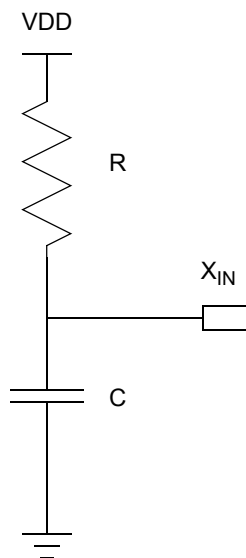

Figure 63. Connecting the On-Chip Oscillator to an External RC Network
Figure 63 displays a recommended configuration for connection with an external resistor-capacitor (RC) network.